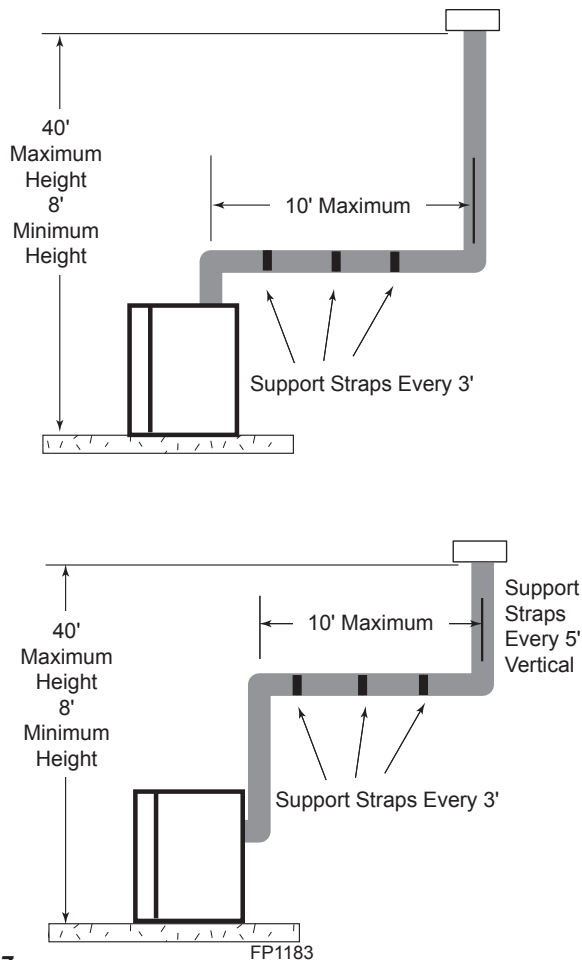

Figure 27 -
- Vertical installations up to 40' (12 m) in height. Up to a 10' (3 m) horizontal vent run can be installed within the vent system using a maximum of two 90° elbows. *Figure 27*
NOTE: If an offset is needed to avoid obstructions, you must support the vent pipe every three (3) feet. Use wall straps for this purpose. Refer to *Figures 27 & 29*. Whenever possible, use 45° elbows instead of 90° elbows. The 45° elbow offers less restriction to the flow of the flue gases and intake air.